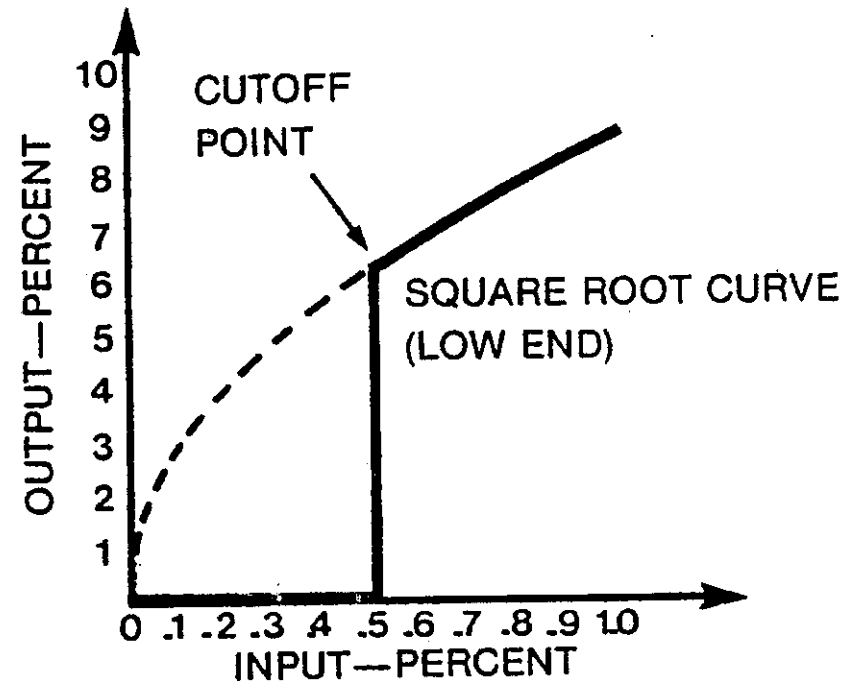

Figure 20: Response Curve for Extractor with 7% Cut-Off Setting.
- Shown in Figure 20 is a response curve for a cut-off relay set at 7% output. In this case, any input signal below $(0.07)^2$ or 0.49% would be ignored by the extractor.